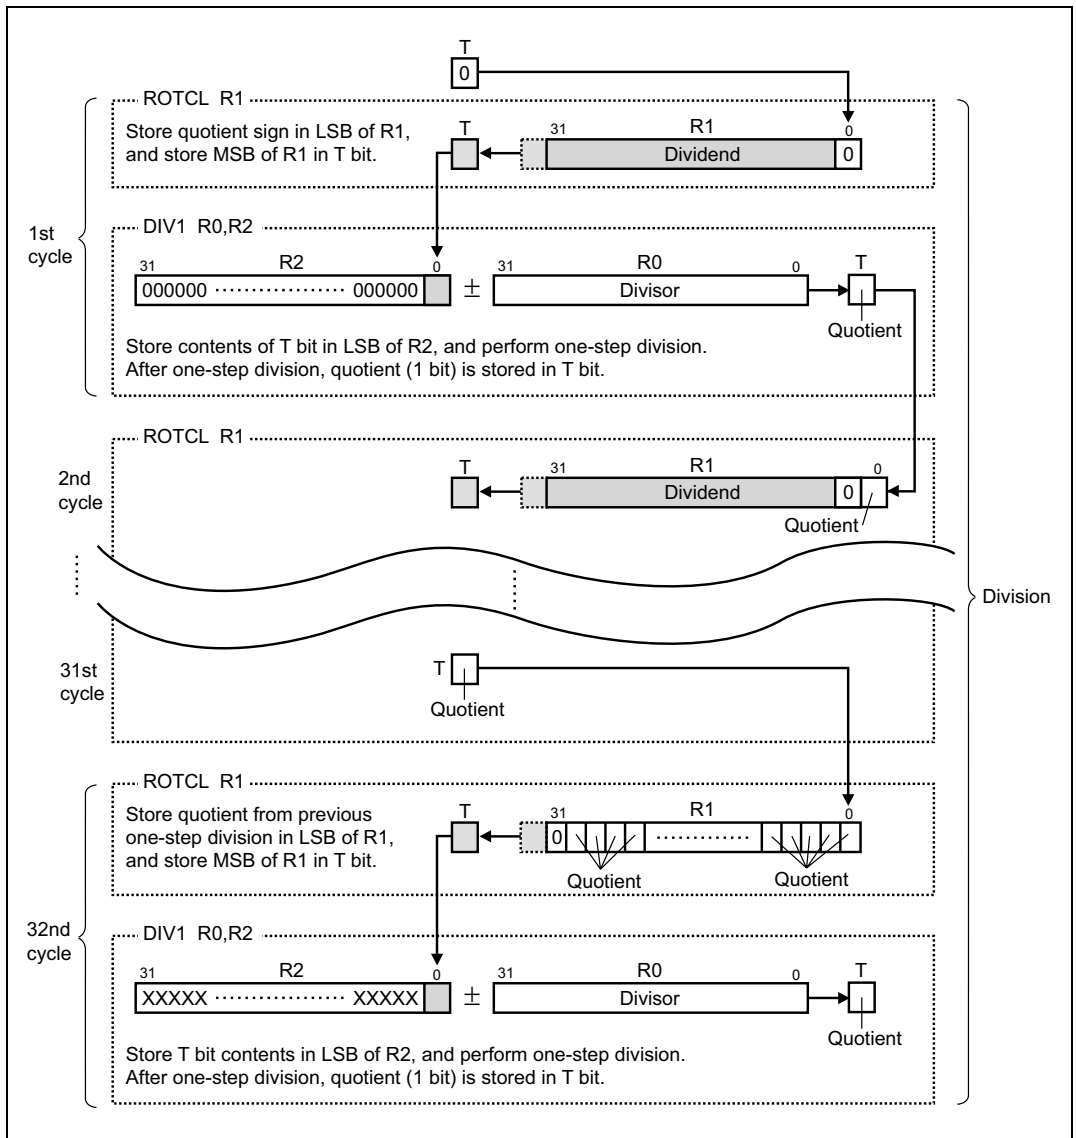

Figure 3 Division
- (b) As shown in figure 3, the division operation is repeated through the number of divisor bits (32 times) using the ROTCL and DIV1 instructions.